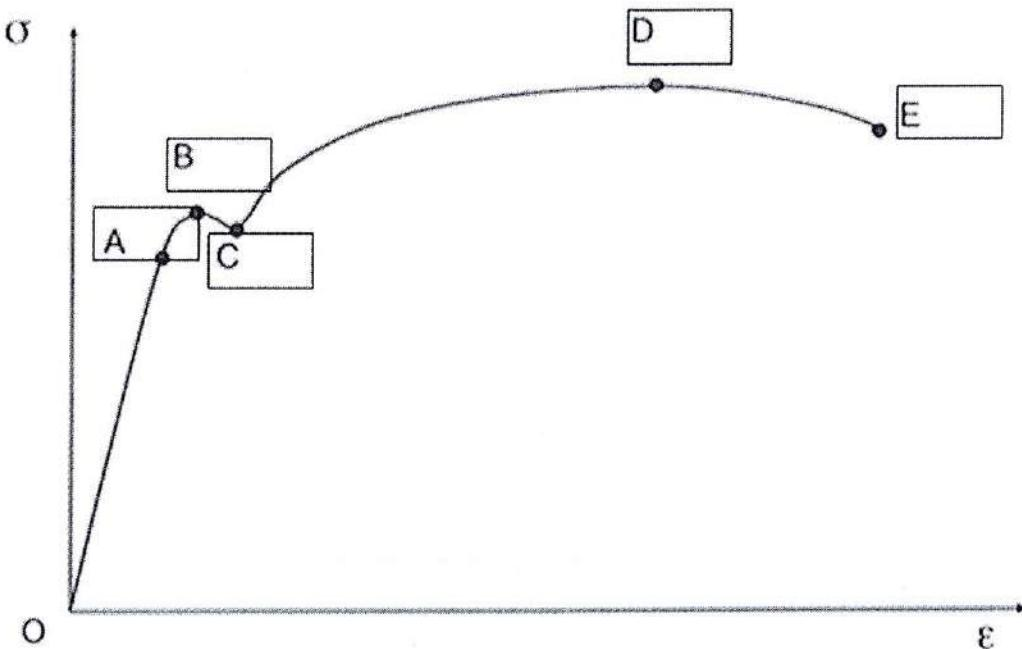

Figure 5a/ Rajah 5a
- a) A tensile test was conducted on low carbon steel and the stress (σ) - strain (ϵ) plot is as shown in **Figure 5a** below. Name the suitable terms for point A, B, C, D and E.